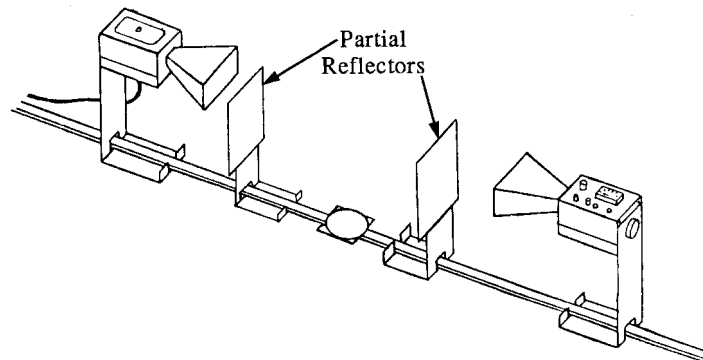

Figure 13: Fabry-Perot Interferometer
When an electromagnetic wave encounters a partial reflector, part of the wave is reflected and part of the wave is transmitted through the partial reflector. A Fabry-Perot Interferometer consists of two parallel partial reflectors positioned between a wave source and a detector (see figure 13).
1. Arrange the equipment as shown in figure 13. Plug in the Transmitter and adjust the Receiver Controls for an easy readable signal.